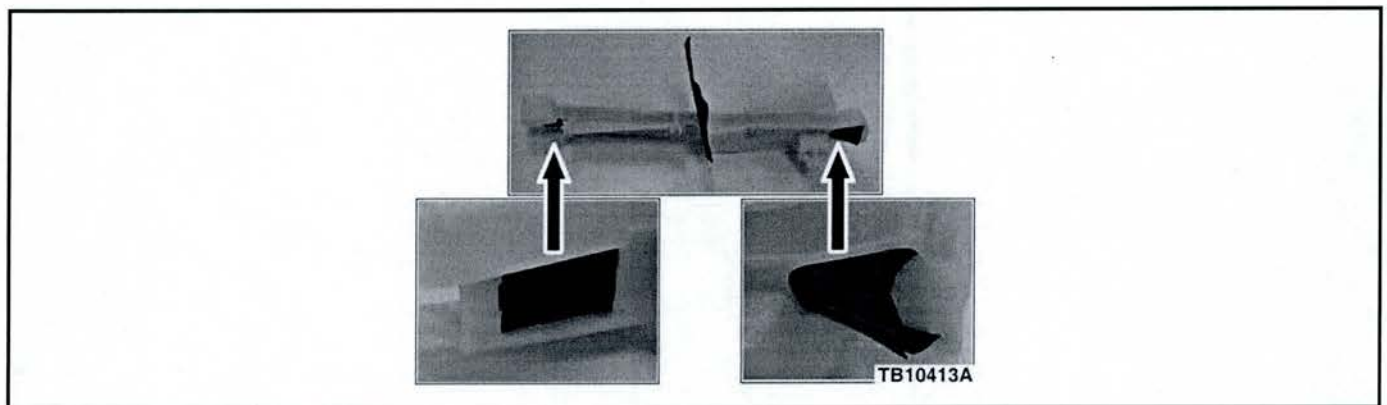

Figure 3 - Article 14-0111
- b. Make sure the top and bottom of the new glass run seal is properly positioned in the plastic moulding tabs. (Figure 3)